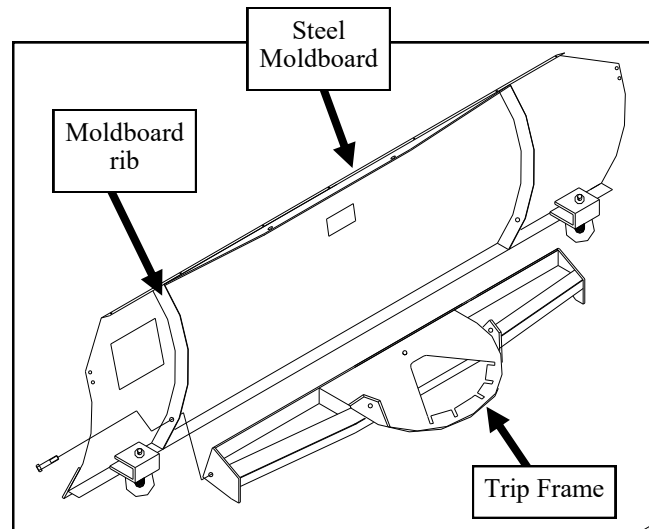

Fig. 5.1—Trip-Frame to Moldboard Assembly
- 5.1 Per fig 5.1, locate the steel moldboard, trip frame, two 1/2-13 x 2-1/2" bolts, and two 1/2-13 Nylock locknuts. Apply all-season grease to the mating surfaces on the trip frame and moldboard rib. As shown, line up the mounting hole in the trip frame with the mounting hole on the moldboard rib (near the bottom). Install into the mounting holes a 1/2-13 x 2-1/2" bolt as shown. Install a 1/2-13 Nylock nut on the back side of the bolt. Repeat installation of hardware for the right side, orienting the bolt head to face away from the center of the moldboard. Tighten the Nylock nuts until all thread slack is removed from the assembly while allowing the trip frame to rotate freely.